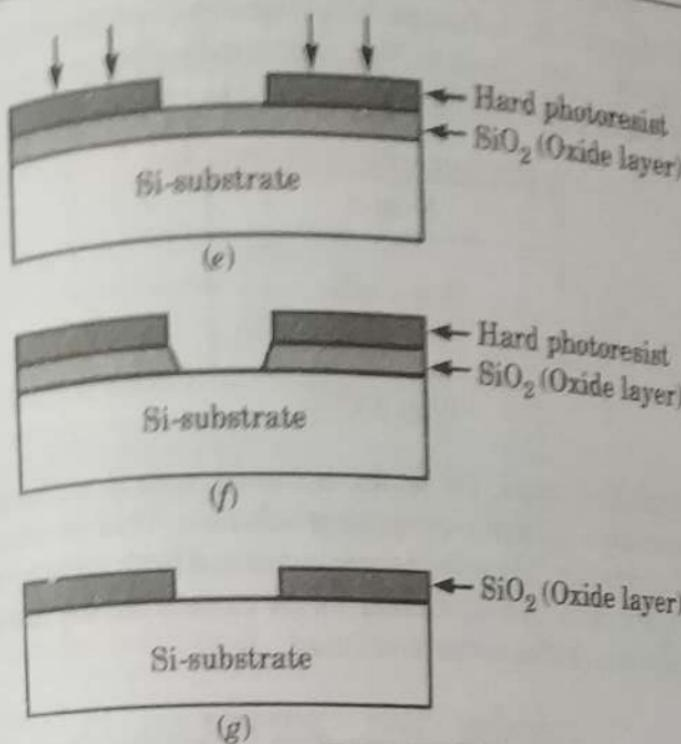

Fig. 5.22.1.
2. Initially silicon substrate has to be taken as shown in Fig. 5.22.1(a).
3. The sequence starts with the thermal oxidation of the silicon surface, results in growth of about 1 mm thickness of SiO_2 layer as shown in Fig. 5.22.1(b).
4. The entire layer is coated with the substance called photoresist, which is a light sensitive, acid-resist organic polymer as shown in Fig. 5.22.1(c).
6. To select the specified position for exposure we use mask, it allows the passage of UV light from its transparent portion as shown in Fig. 5.22.1(d).
8. Following the UV exposure step, the soft portion is etched off using solvents (HF acid) as shown in Fig. 5.22.1(e).
9. Now, the SiO_2 region which is not covered can be etched away by using chemical solvents shown in Fig. 5.22.1(f).
10. We obtain an oxide window that reaches down to the silicon surface, the remaining photoresist can now be stripped from rest of SiO_2 surface by using another solvents as shown in Fig. 5.22.1(g).